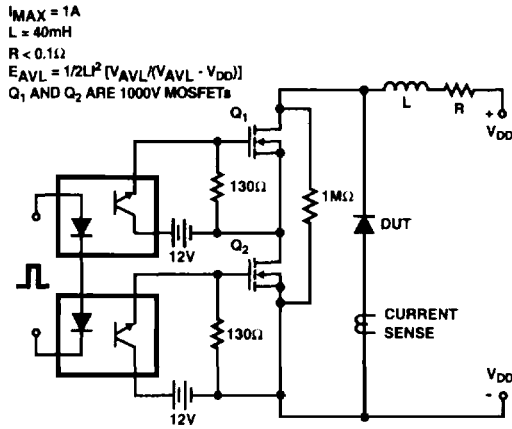

FIGURE 10. AVALANCHE ENERGY TEST CIRCUIT
- $E_{AVL}$  = Controlled avalanche energy. (See Figures 10 and 11).